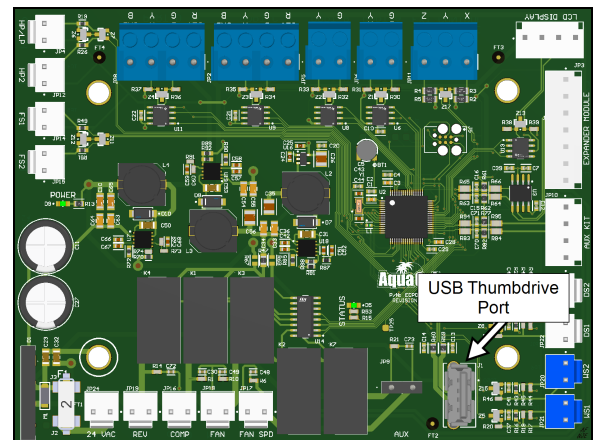

Figure 1 - USB Thumb Drive Port
3. Plug USB thumb drive into port as indicated. See Figure 1.